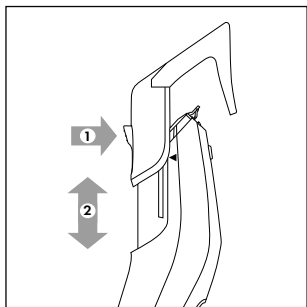
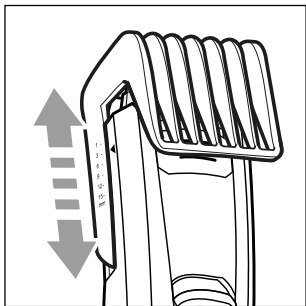

Fig. 3
Fig. 4
- ◆ Press the button on the back of the comb attachment **10/11** and push the comb attachment **10/11** upwards or downwards (see fig. 3). In this way, you can set the desired cutting length (see also the section **Cutting hair**).
- 3) Set the cutting length to the desired hair length on the comb attachment ⑩/⑪. To do this, press the button on the back of the comb attachment ⑩/⑪ and push the comb attachment ⑩/⑪ upwards or downwards (see fig. 3). You can read the cutting lengths via the markings on the comb attachment ⑩/⑪ (see fig. 4). Start with a longer cutting length and reduce this in stages while cutting the hair.
- ◆ Set the cutting length to the desired hair length on the comb attachment **10/11**. To do this, press the button on the back of the comb attachment **10/11** and push the comb attachment **10/11** upwards or downwards (see fig. 3). You can read the cutting lengths via the markings on the comb attachment **10/11** (see fig. 4). Now trim your beard in stages.